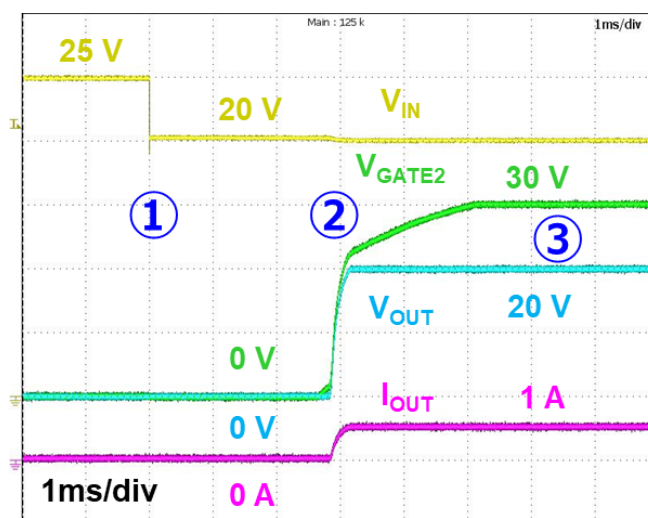

Fig 7.7 Over voltage lockout recovery operation (TCK421G, VGATE2)
Fig 7.7 is the recovery operation from the over voltage lockout. When V_{IN} falls V_{IN_OVLO} and returns to the normal operating range (①), V_{GATE2} and V_{OUT} begin rising after a certain period (②), and the intermittent operation is performed so that V_{GS} keeps 10 V (③). In this series of recovery operations, the turn-on time from when V_{IN} returns to normal operating range until V_{GATE} increases is equivalent to t_{ON} .